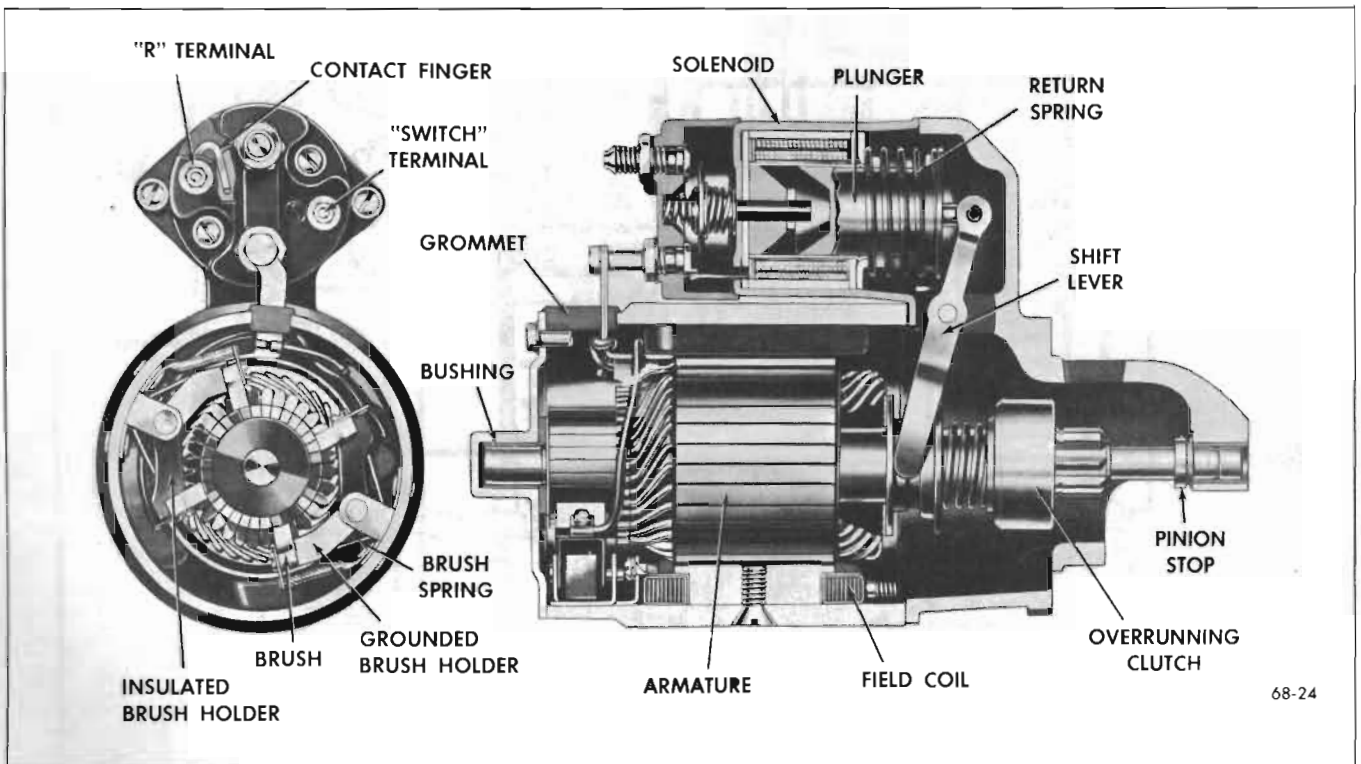

Figure 68-24—Starting Motor - Large Engines
When it is necessary to disassemble cranking motor for any reason, make a complete clean-up and inspection to make sure all parts are in satisfactory condition. See Figure 68-24 for identification of parts.
4. Remove two screws holding solenoid to drive housing and remove solenoid. Remove small nut and insulating washer from the solenoid "S" terminal. Remove large nut and insulating washer from the solenoid battery terminal. See Figure 68-24. Then, remove two screws that attach switch cover to solenoid and remove cover for inspection of switch parts.